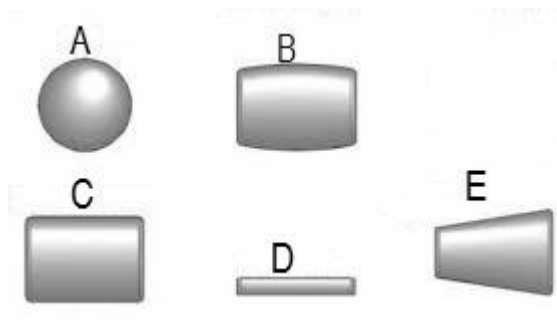

FIGURE 2
3.1 Refer to the rolling elements of bearings in FIGURE 2 below.